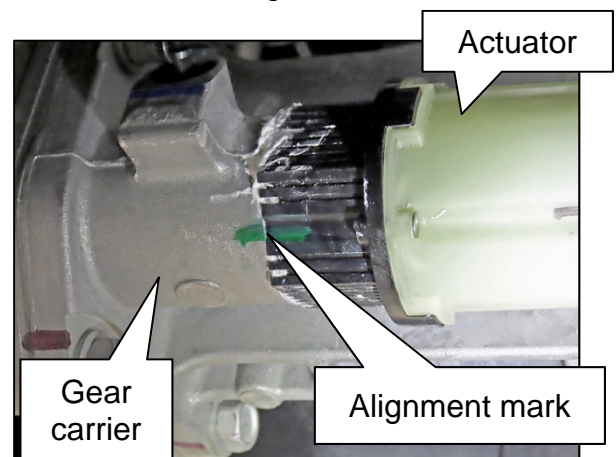

Figure 2
- a. Place an alignment mark on the splined actuator body and the gear carrier (Figure 2).